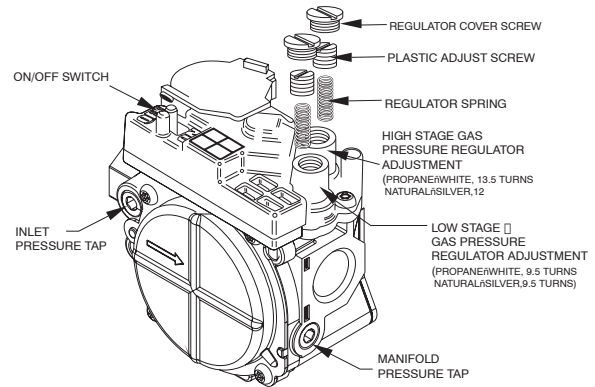

Fig. 26 – Two-Stage Gas Valve, Series G / J
NOTE: For furnaces with Fig. 26-type gas valves, both the regulator springs must be replaced and pre-adjustment must be made for natural gas operation.
For furnaces with Fig. 26 type gas valves:
2. Remove the caps that conceal the regulator adjustment screws for low-heat and high-heat stage gas valve regulators. (See Fig. 26.)